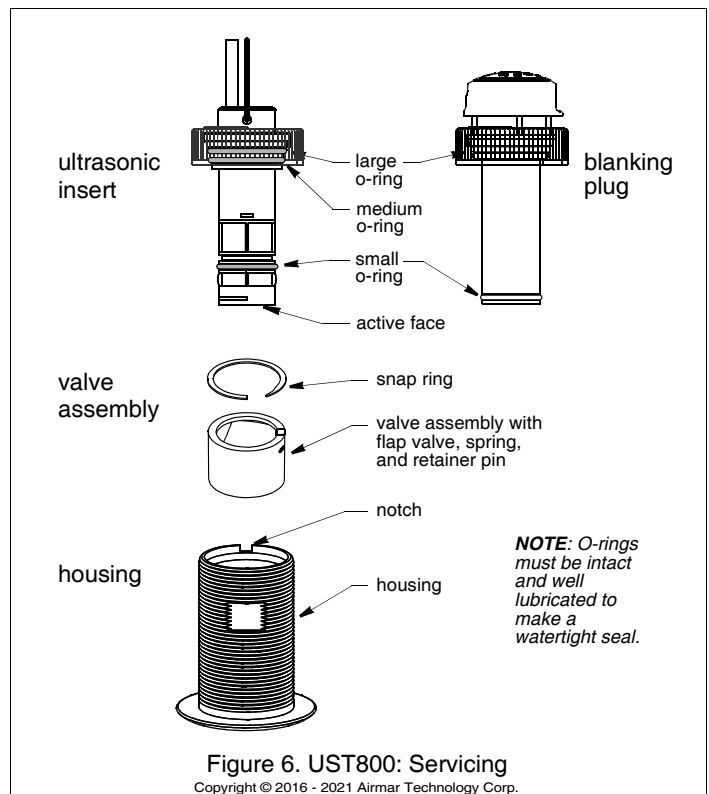

Figure 6. UST800: Servicing
5. *All the O-rings must be intact and well lubricated to make a watertight seal.* After the marine sealant cures, inspect the O-rings on the ultrasonic insert (replace if necessary) and lubricate them with the silicone lubricant supplied (Figure 6 or 7).
*All the O-rings must be intact and well lubricated to make a watertight seal.* Inspect the O-rings (replace if necessary) and lubricate them with the silicone lubricant supplied or petroleum jelly (Figure 6 or 7).
2. Grasp the pull ring and remove the ultrasonic insert with a slow pulling motion (Figure 6).
Aquatic growth will seriously affect the performance of the ultrasonic insert. Clean the active face with a dull putty knife, being careful to avoid scratching the surface (Figure 6 or 7). If fouling is severe, lightly wet sand the active face with fine grade (#320) wet/dry paper.
All the O-rings must be intact and well lubricated to make a watertight seal. Install the O-rings on the ultrasonic insert as shown (Figure 6 or 7). The remaining O-rings are placed in similar positions on the blanking plug.
1. All the O-rings must be intact and well lubricated to make a watertight seal. On the blanking plug, inspect (replace if necessary) and lubricate the O-rings with silicone lubricant or petroleum jelly (Figure 6).
3. Remove the snap ring from the valve assembly using a screwdriver to pry the end of the ring free (Figure 6).
6. Clean, repair, or replace the valve assembly so the flap valve moves freely and seats against the valve housing (Figure 6).